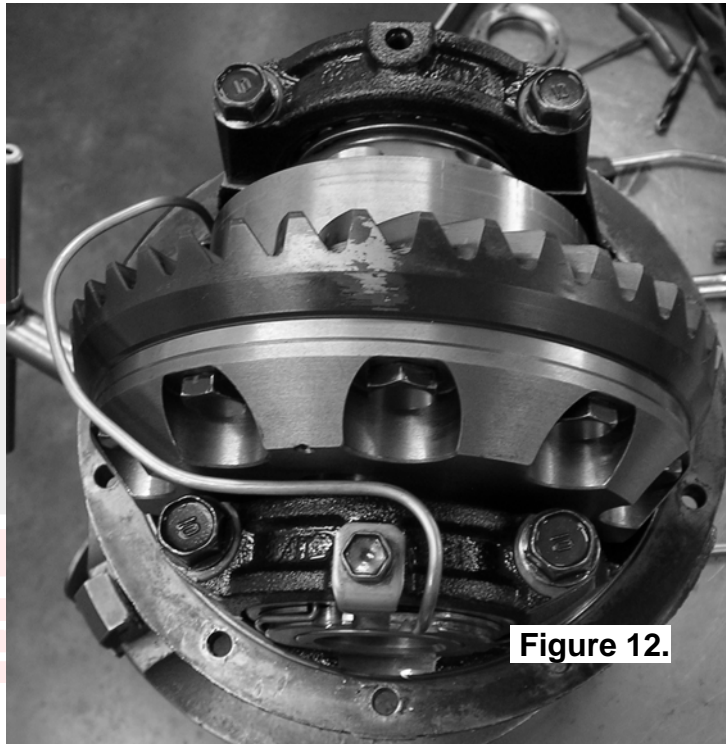

Figure 12.
- ☐ With the seal housing tube now firmly secured into the bulkhead fitting, bend the tube so that it closely follows the profile of the differential. (Figs.12.,13. & 14.)